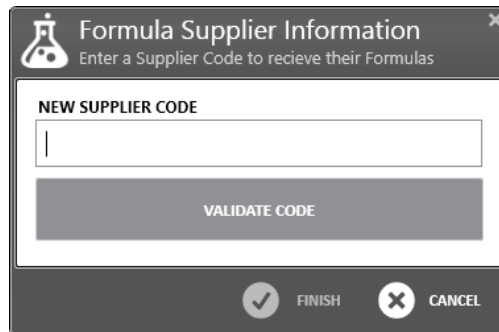

Figure 99 Validate new supplier code
3. After you have clicked the pencil icon you will be prompted to validate the supplier code. Enter the supplier code to validate code. Press “FINISH” to have access to that supplier’s formulas. (Figure 99)